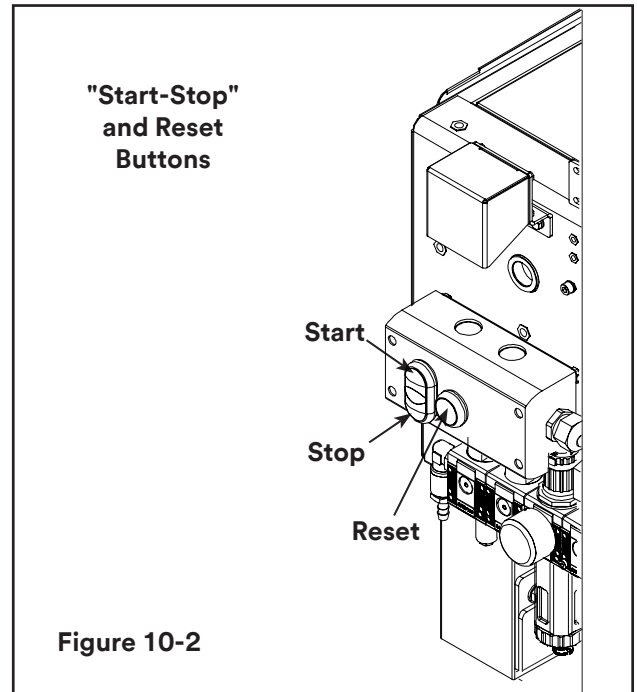

Figure 10-2
The box drive belts are turned on and off with the electric "Start/Stop" button on the side of the machine frame (Figure 10-2).
- Then Press Reset Button (Figure 10-2).
- Then press the Station "Start" Button (Figure 10-2).